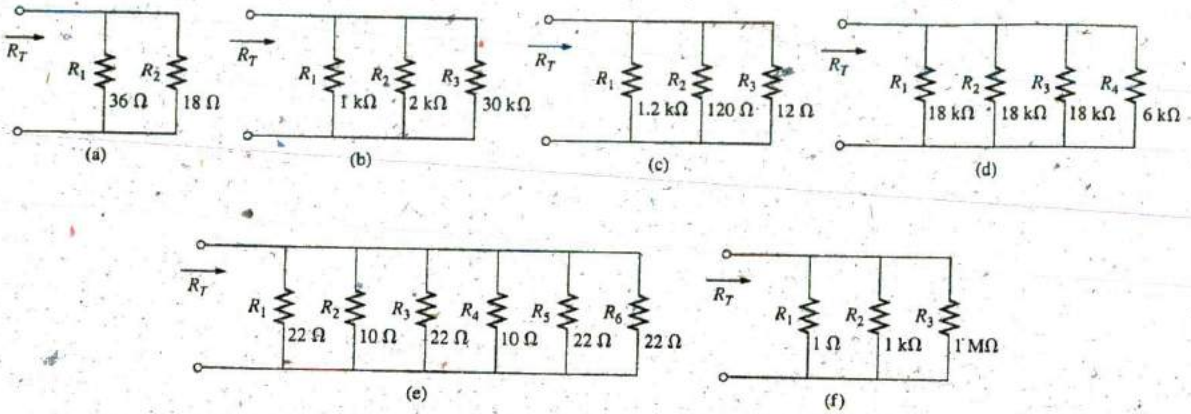

FIG. 6.73
3. Find the total resistance for each configuration in Fig. 6.73. Note that only standard value resistors were used.